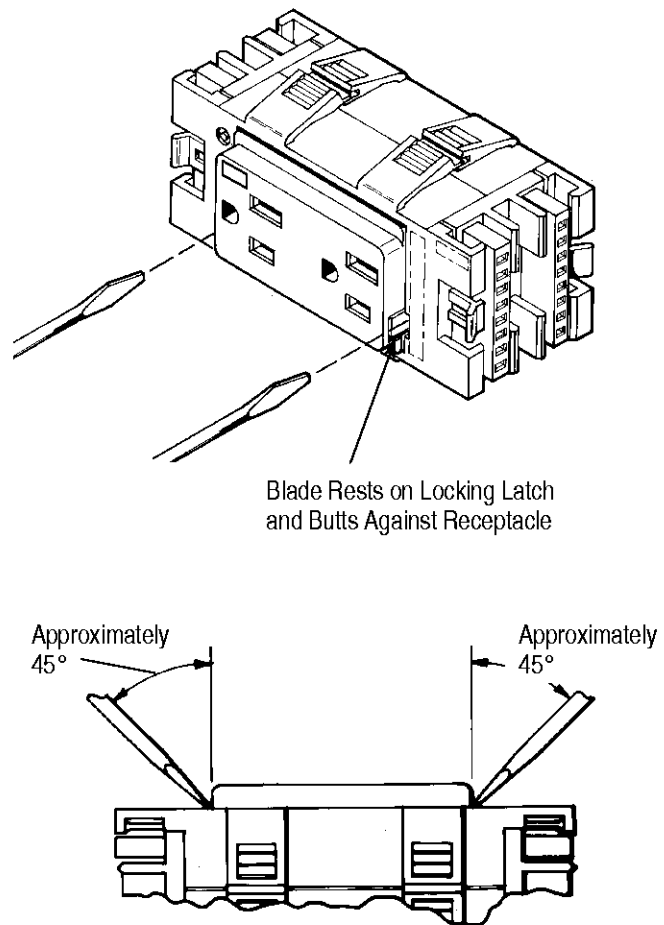

Figure 9
1. Fit each screwdriver blade into the slot between the locking latch of the duplex receptacle and the side of the power junction box assembly as shown in Figure 9.
2. Simultaneously, rock downward each screwdriver handle as shown by the arrows in Figure 9 (about 45° angle). This will force the locking latches to open, releasing the duplex receptacle and lifting it in an upward direction.